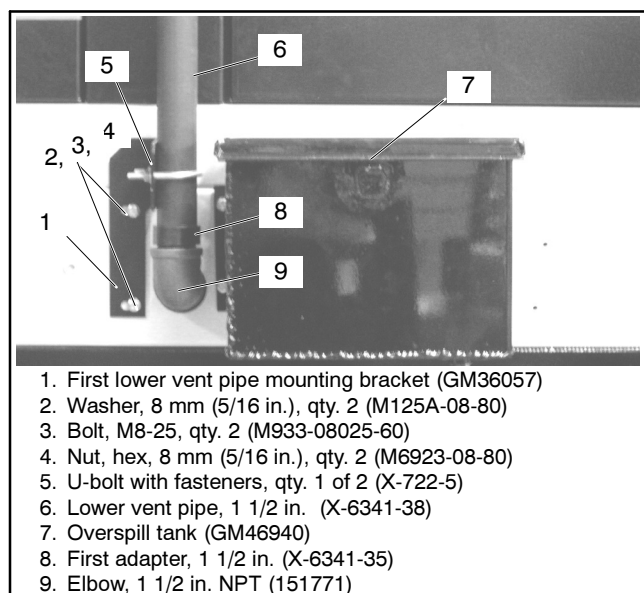

Figure 17 Attach Vent Pipe to Mounting Bracket
- Place washers M125A-08-80 with M8-25 bolts M933-08025-60 thru mounting slot on overspill tank GM46940. Hand tighten all fasteners. See Figure 17.
- 2.2.13 Verify lower vent pipe mounting bracket GM36057 and 1 1/2 in. lower vent pipe X-6341-38 are 90° to the enclosure. Tighten fasteners securely. See Figure 17.
- 2.2.15 Attach first 1 1/2 in. adapter X-6341-35 to 1 1/2 in. NPT elbow 151771. See Figure 17.
- 2.2.16 Discard saddle on U-bolt X-722-5. Slide U-bolt through lower vent pipe mounting bracket GM36057 slots and re-attach fasteners. Hand tighten fasteners. See Figure 17.
- 2.2.17 Insert the first lower vent pipe thru U-bolt X-722-5. Use PVC adhesive and attach the top of the first 1 1/2 in. adapter X-6341-35 to the bottom of the first 1 1/2 in. lower vent pipe X-6341-38. See Figure 17.
- 2.3.15 Tighten and secure all fasteners on both U-bolts X-722-5 and lower vent pipe mounting bracket GM36057. See Figure 17.